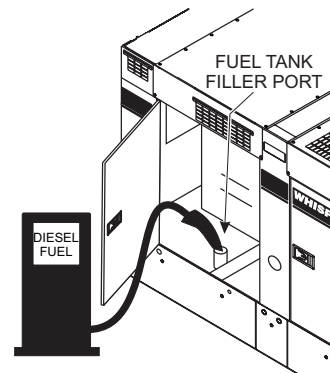

Figure 31. Fueling The Generator
2. Open cabinet doors on the “right side” of the generator (from the generator control panel position). Remove the fuel cap and fill the tank (Figure 31).